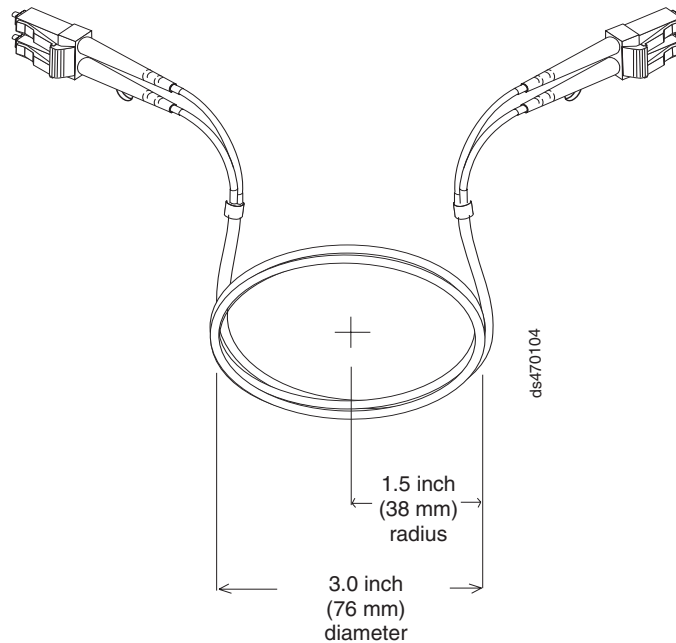

Figure 23. Recommended bending and looping specifications for fibre-optic cables
- When storing excess or unused fibre-optic cables, do not bend the cables to a diameter of less than 76 mm (3 in.), or a radius less than 38 mm (1.5 in.) or wrap them around themselves. See Figure 23 on page 45.